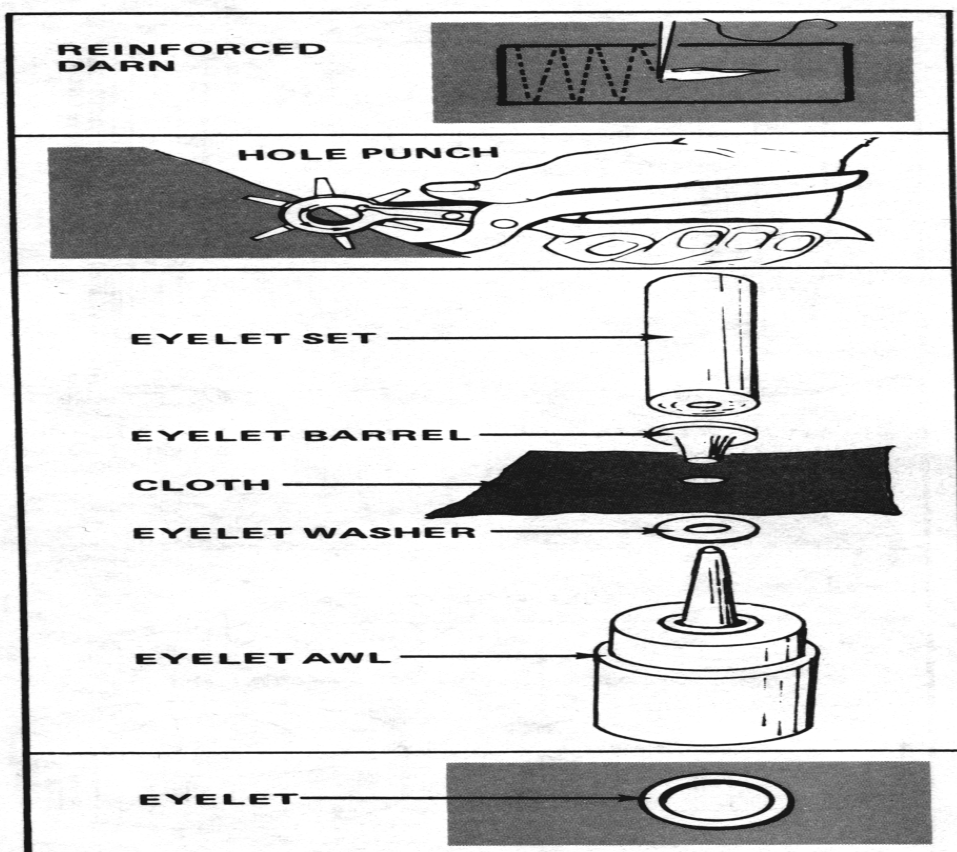

Figure 4-17. Replacing a metal eyelet
b. Replacing Metal Eyelets. To replace metal eyelets (Figure 4-17)--
- (1) Remove the defective eyelet by cutting it out with a pair of wire cutters. Do not cut the surrounding cloth.
- (2) Close the hole with a reinforced darn.
- (3) Obtain an eyelet the same type and color as the one removed.
- (4) Use a hole punch to make a new hole for the eyelet. Make the hole smaller than the eyelet barrel so that the eyelet will fit tightly.
- (5) Turn the cloth facedown. Insert the barrel of the eyelet down into the hole.
- (6) Place the washer on the awl.
- (7) Place the cloth facedown on the awl so that the barrel of the eyelet rests on the awl.
- (8) Position the eyelet set on the eyelet, and hold it in place.
- (9) Hit the top of the eyelet set with a mallet to set the eyelet in the cloth.